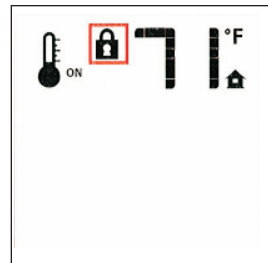

Figure 56. Lock ON
- To activate the Lock, press the Mode key and UP Key at the same time. Fig. 56.